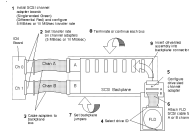

Figure 3-29 SCSI Channel Configuration
2. Set the transfer rate of the channels on the channel adapter boards. The green, single-ended SCSI channel adapter board has two transfer-rate jumpers. If the channel being configured is an internal channel (for example the SCSIBox), leave the jumpers installed, and the bus transfer rate will remain at 10 MB/second (or fast mode). If an external single-ended channel is being configured, remove both jumpers and the transfer rate drops to 5 MB/second (slow mode). There is no wrong way to install the jumpers; they require no special orientation. See Figure 3-29.